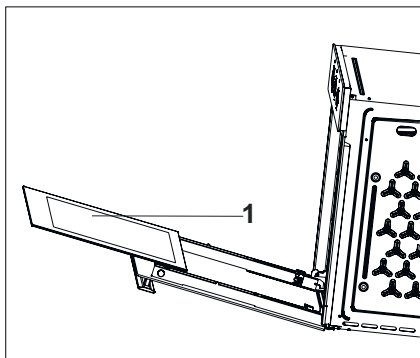

Fig. 22
- Remove the internal glass of the appliance to clean it (Fig. 22).